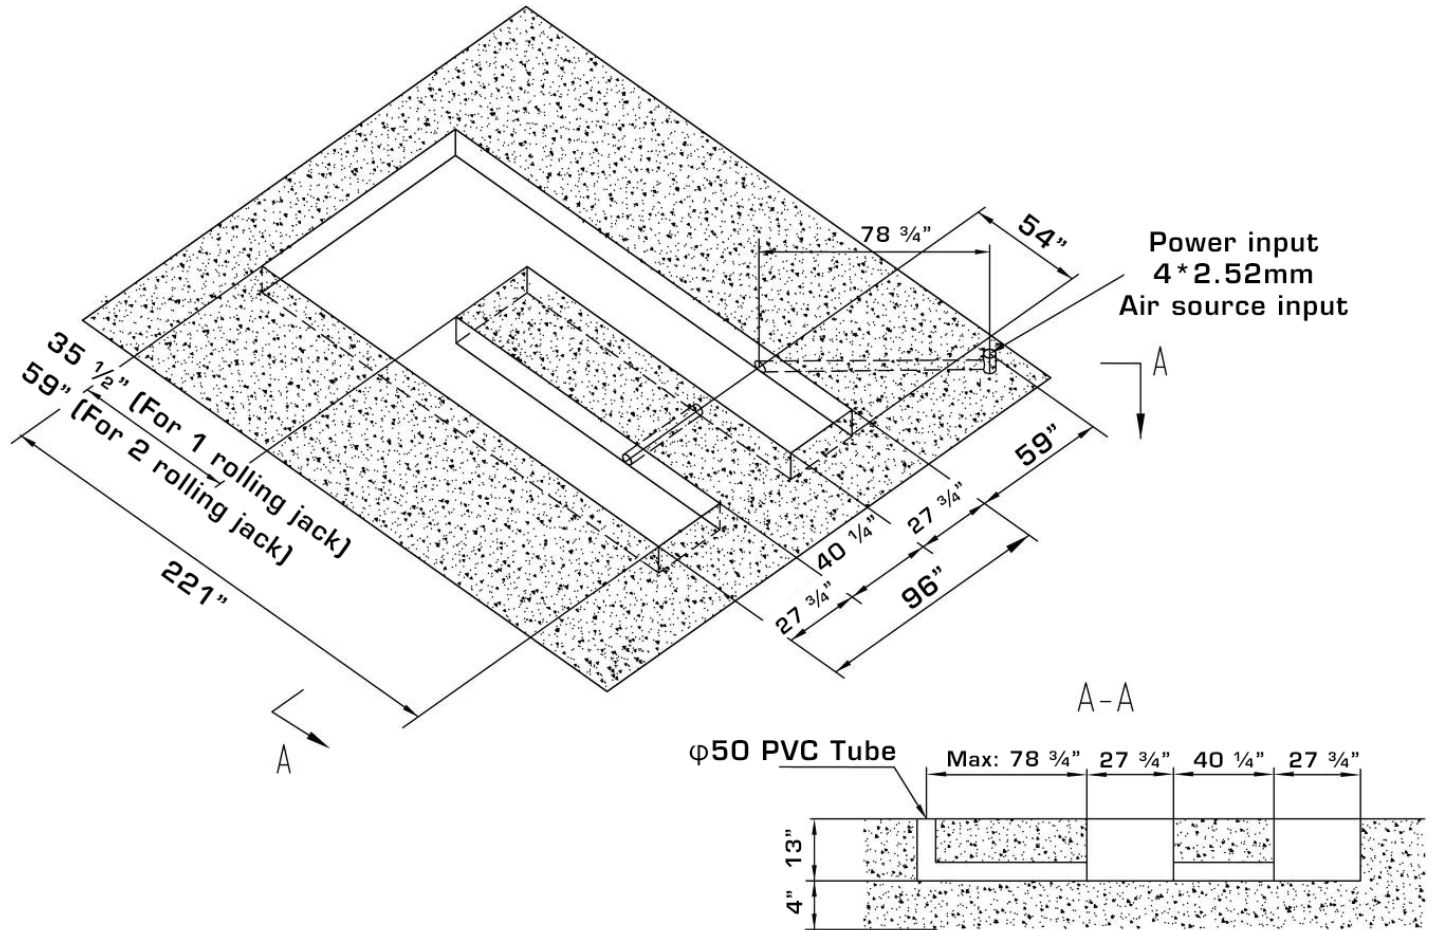

Fig. 5
2.1 Flush mount installation foundation (Fig. 5).